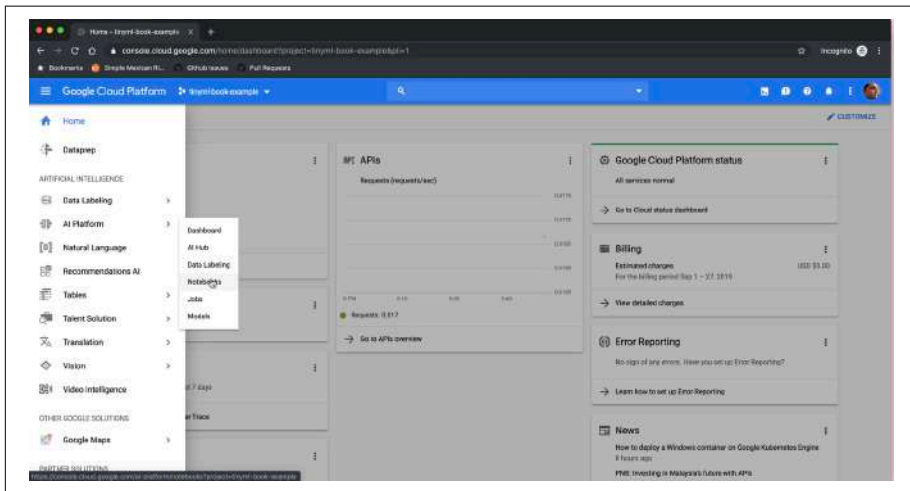

Figure 10-1. The AI Platform menu
2. In the upper-left corner of the screen, open the hamburger menu (the main menu with three horizontal lines as an icon, as illustrated in Figure 10-1) and scroll down until you find the Artificial Intelligence section.
3. In this section, select AI Platform→Notebooks, as shown in Figure 10-1.